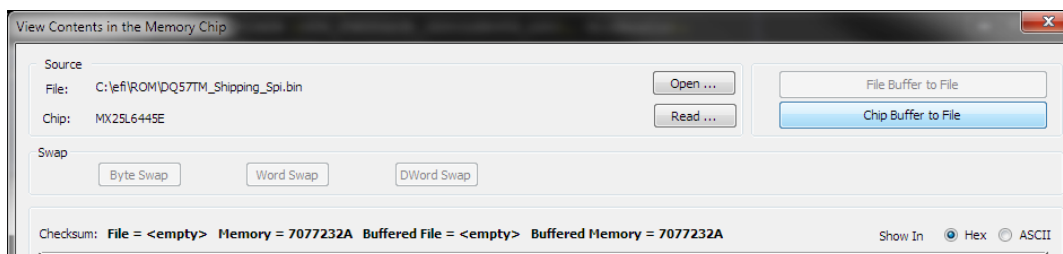

Figure 3-11. Initiate a save operation by selecting *Chip Buffer to File*.
8. Select *Chip Buffer to File* (see Figure 3-11). This initiates a *save as* operation.